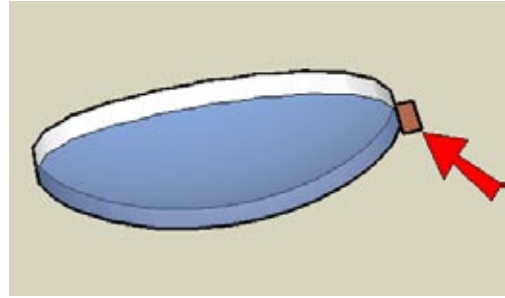

Figure 4-81
1. On one side of the lens, draw a shape to use as the Follow Me face for the frame (Figure 4-81). My Follow Me face is a rectangle, but you could try a curved shape.